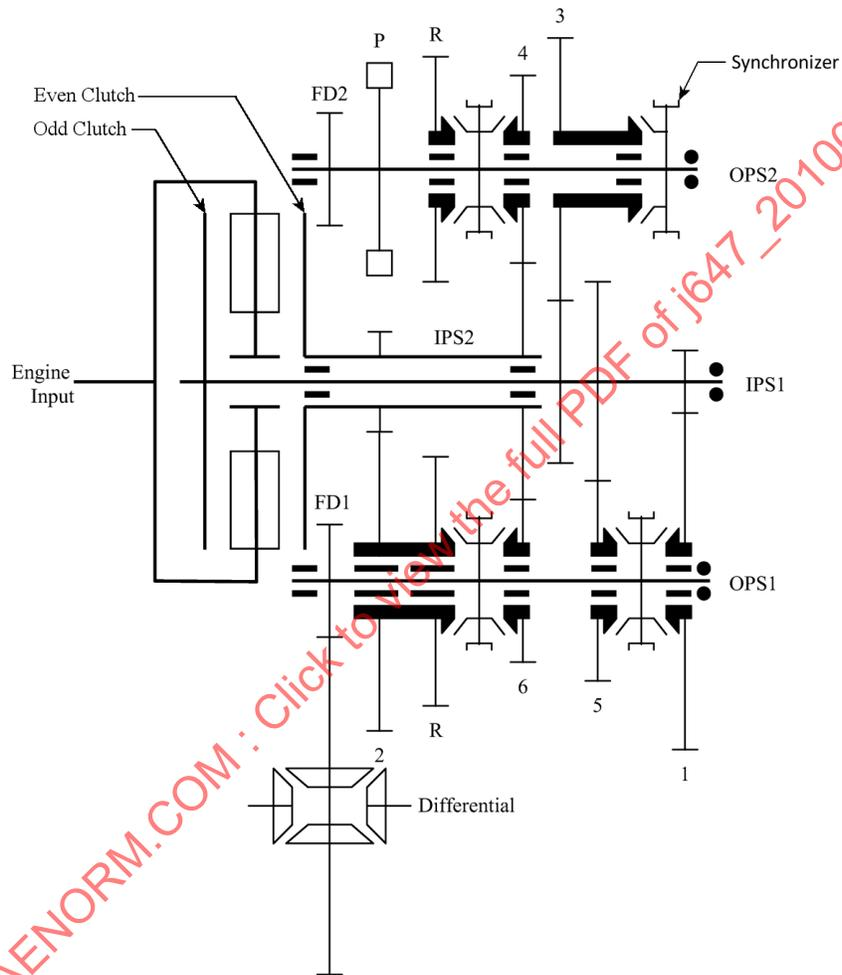
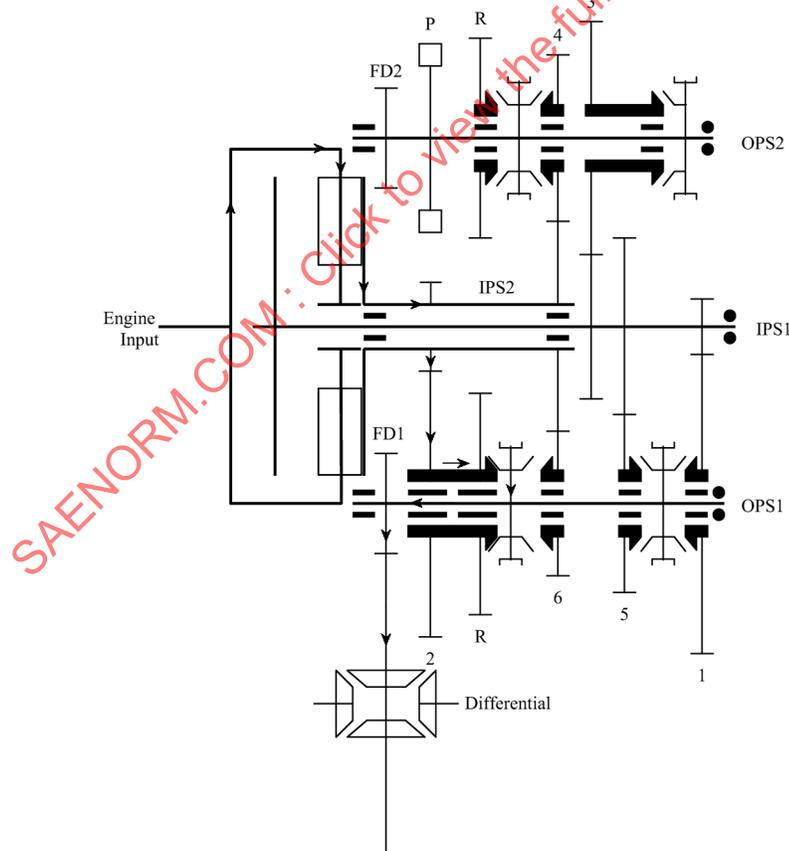

FIGURE 1 - SIX-SPEED DUAL CLUTCH TRANSMISSION DIAGRAM - NEUTRAL
FIGURE 8 - SIX-SPEED DUAL CLUTCH TRANSMISSION DIAGRAM - 2ND SPEED
Figure 1 illustrates a six-speed layshaft dual clutch transmission. Each gear is identified according to the particular transmission speed it provides when engaged, for example: 1st, 2nd, 3rd, and so forth.
4.1 Figures 8 and 9 illustrate a six speed dual clutch transmission and a four speed planetary gear transmission in gear (originally shown in Figures 1 and 2) engaged with the torque path denoted by straight bold arrows. Curved arrows indicate direction of shaft rotation. Active members are designated with sections crosshatched.
#### 4.2 Dual Clutch Transmission (Figure 8)